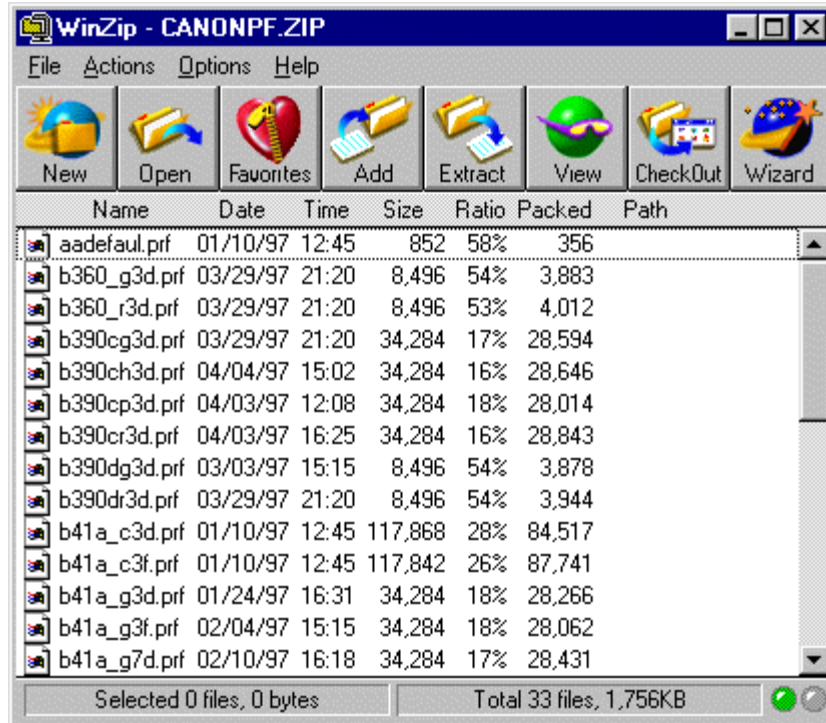

Figure 16 View Contents of WinZip File
- To view the contents of a compressed file, click on the file. This will bring up WinZip with a screen like Figure 16.